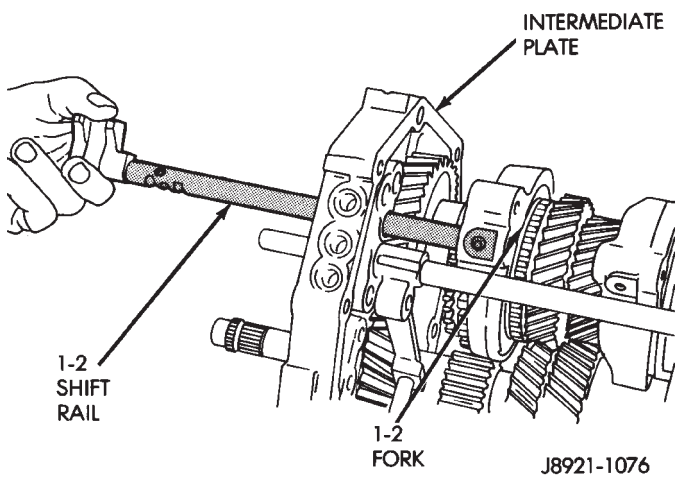

Fig. 74 Remove 1-2 Shift Rail
- (26) Remove the 1-2 shift rail from the 1-2 shift fork and the intermediate plate (Fig. 74).